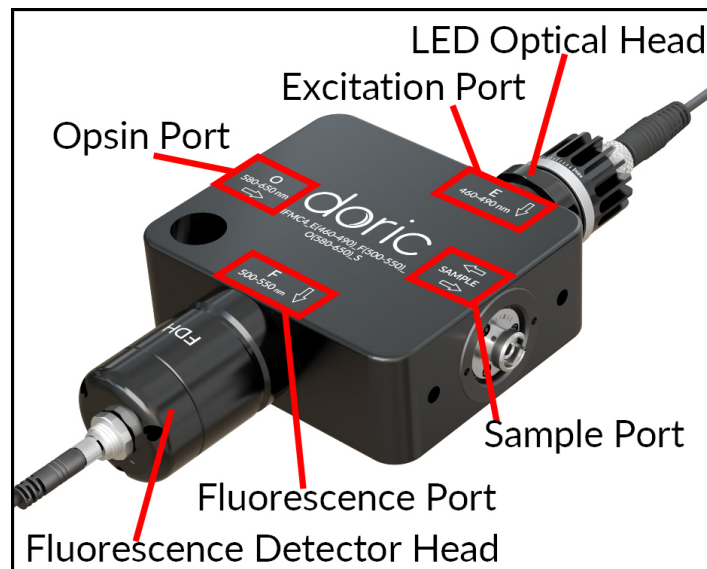

Figure 1.1: 4-port Fluorescence Mini Cube
- **E** and **IE** (Fig. 1.1) represent entry ports for fluorescence and isosbestic point excitation light. Each port of this type comes with a *Built-in LED Optical Head* that contains the following elements.
- **F** (Fig. 1.1) represents ports for fluorescence emission light. Each port of this type comes with a *Built-in Doric Fluorescence Detector Head*.
- **O** (Fig. 1.1) represents optogenetic activation or silencing ports. These are always FC receptacles to allow connection to laser or fluorescence light sources.
- **S** (Fig. 1.1) represents the exit port to the sample. These are always FC receptacles to allow connection to an experimental subject.